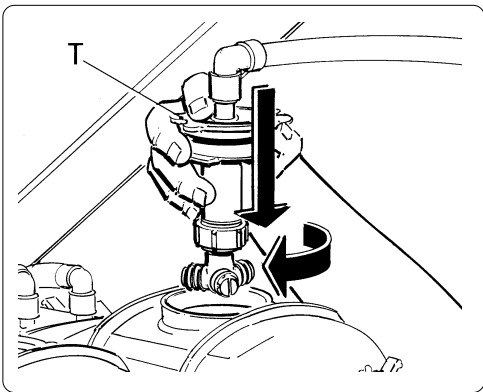

Fig. 24
- m) Mount the cap (T) already fitted with CIP system, then turn on the water flow and leave it to rinse everything for 2 minutes. Then turn off the water (fig. 24).